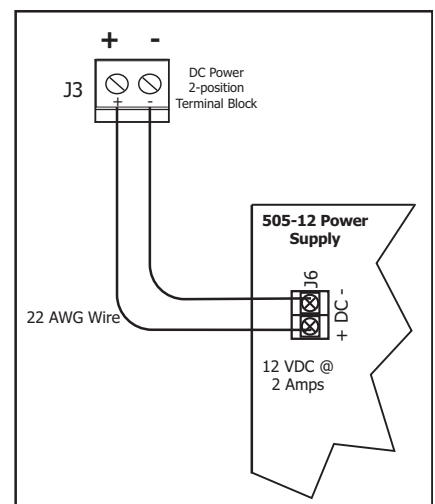

Figure 2: Power Supply Connection
1. Using 22 AWG wire, connect the J3 DC Power 2-position Terminal Block to the J6 terminal on the 505-12 power supply PCB. See Figure 2.